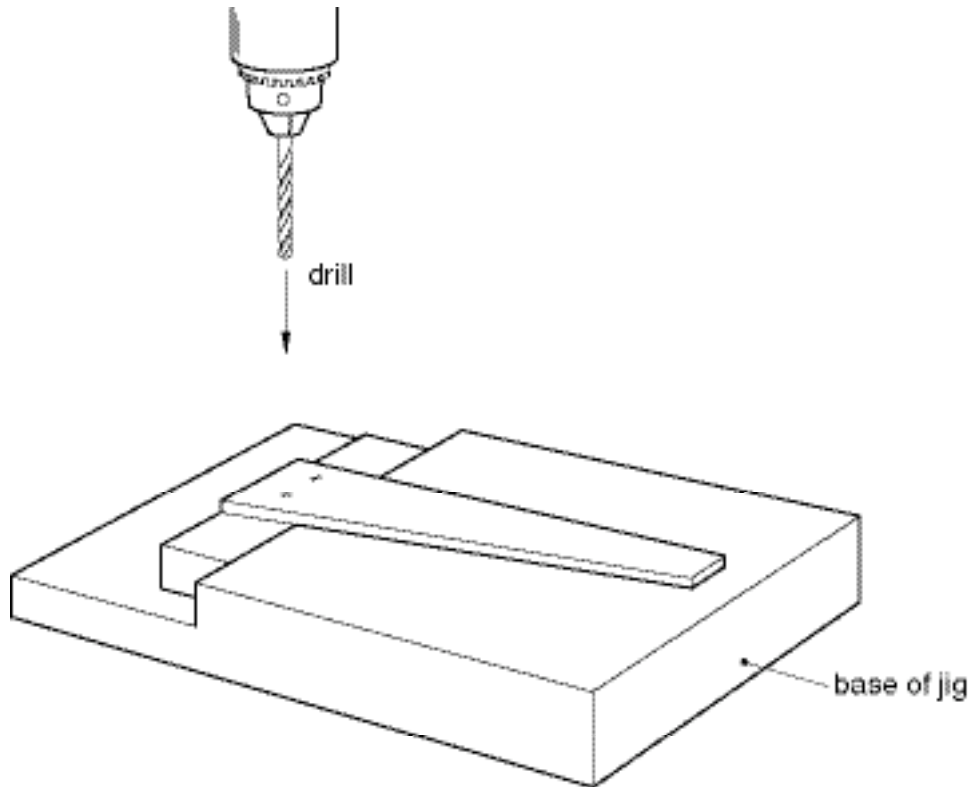

Fig. 11
- 5 A manufacturer produces a batch of 'T' Squares. The 'T' square has two parts joined using a fitting that requires a $\text{Ø}6$ hole. Fig. 11 shows a simple jig used when drilling holes for the fittings.